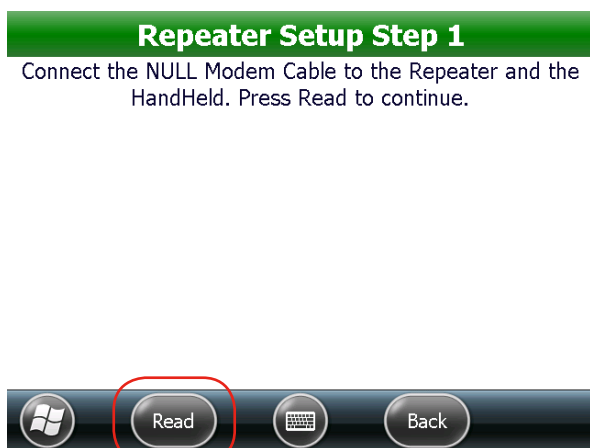

Figure 13: Connect NULL modem cable
2. Tap the **Read** button (Figure 13).